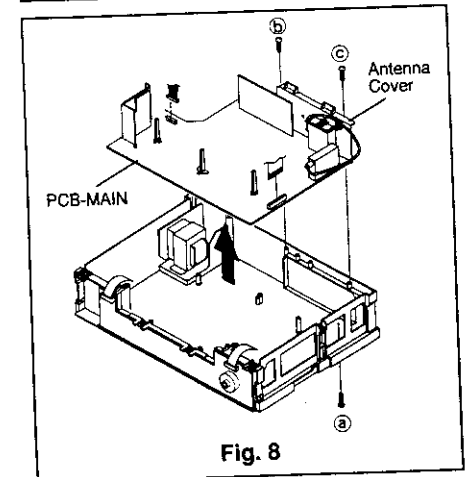

Fig. 8
- ⑤ If necessary to remove PCB-MAIN completely, remove the Assy Deck. (Refer to Para. 5 of the DISASSEMBLY.) Remove all connectors on the PCB-MAIN. Remove one fastening screw (a) on the bottom and two fastening screws (b and c) on the Antenna Cover shown in Fig. 8. Raise the PCB-MAIN upward to remove it.